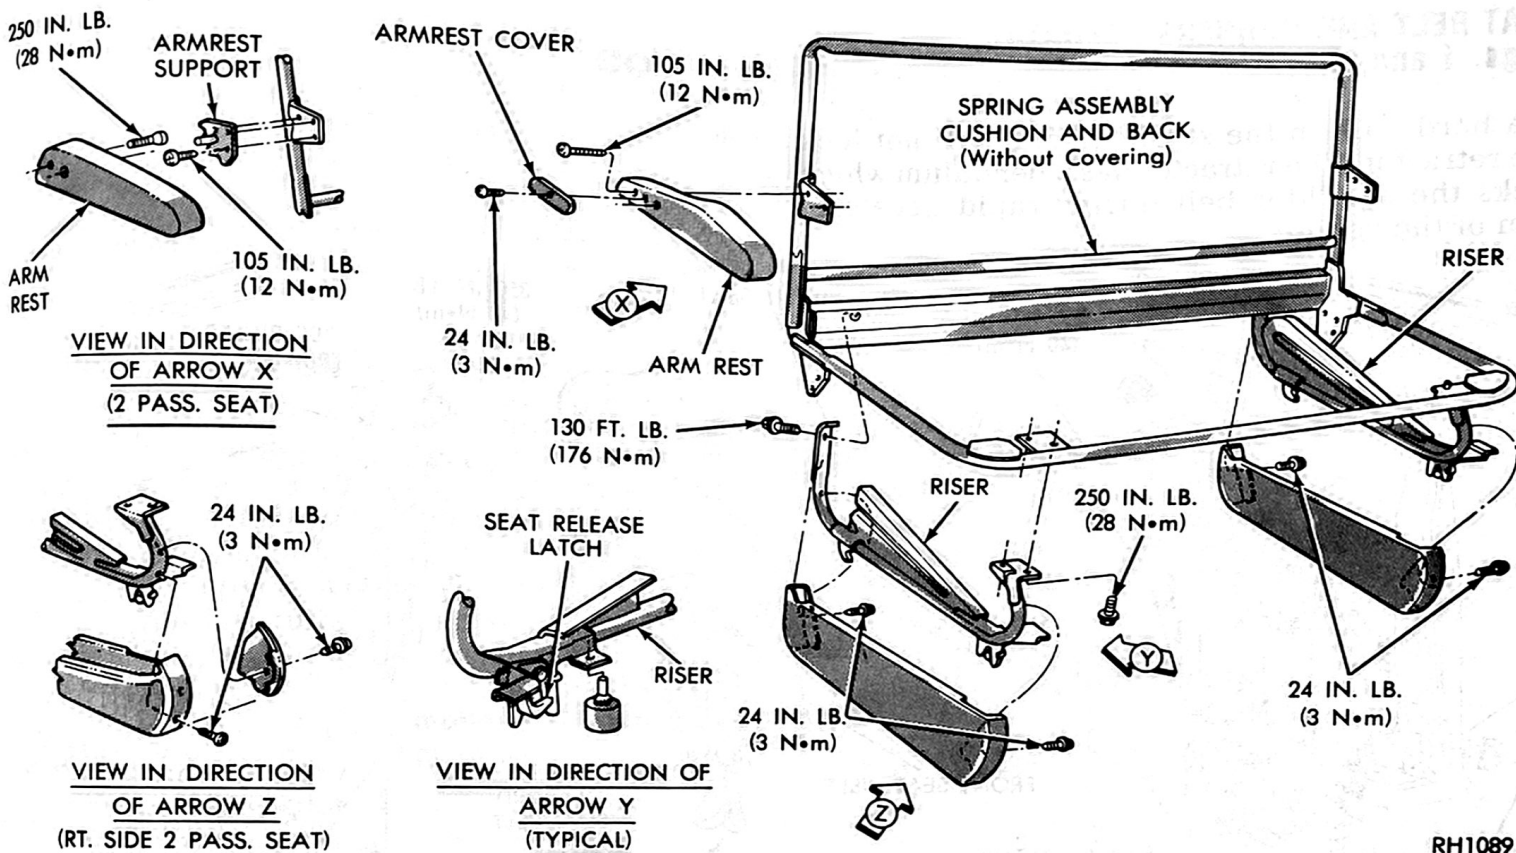

Fig. 7—First Rear Seat Assembly
(4) Unbolt the riser from the frame (Fig. 7).
(5) Reverse this procedure to install and torque the seat riser to frame bolts as follows:
- Unbolt and remove the armrest cover (Fig. 7).
(3) Reverse this procedure to install.